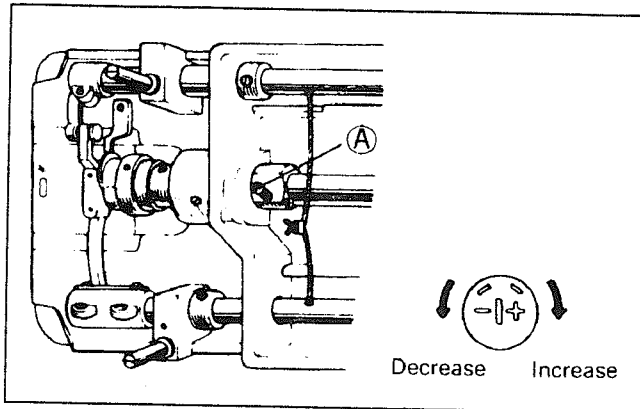

Fig.11
12、 Adjustment of the hook lubrication (Fig.11):